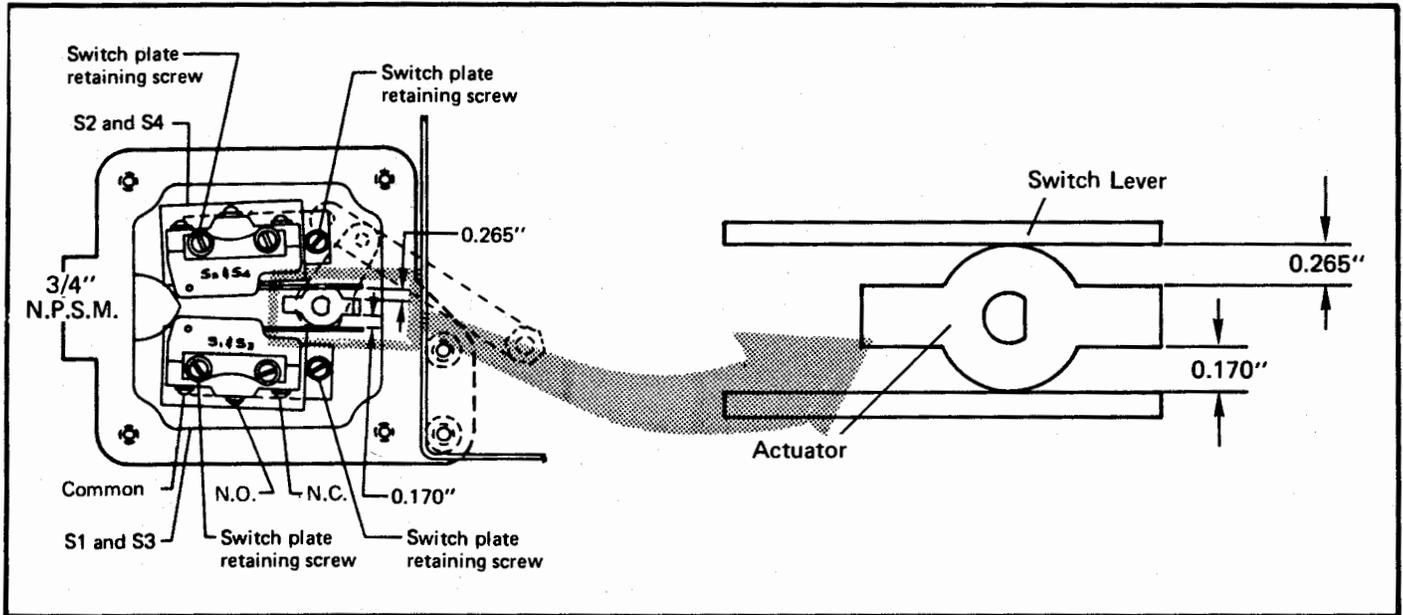

Figure 6-4 Typical Preset Switch Assembly
6-6 Positioning Preset Switch on the Preset Counter (Refer to Figure 6-4)
2. Insert feeler gage of proper thickness (Refer to Figure 6-4) between the switch lever and the actuator.